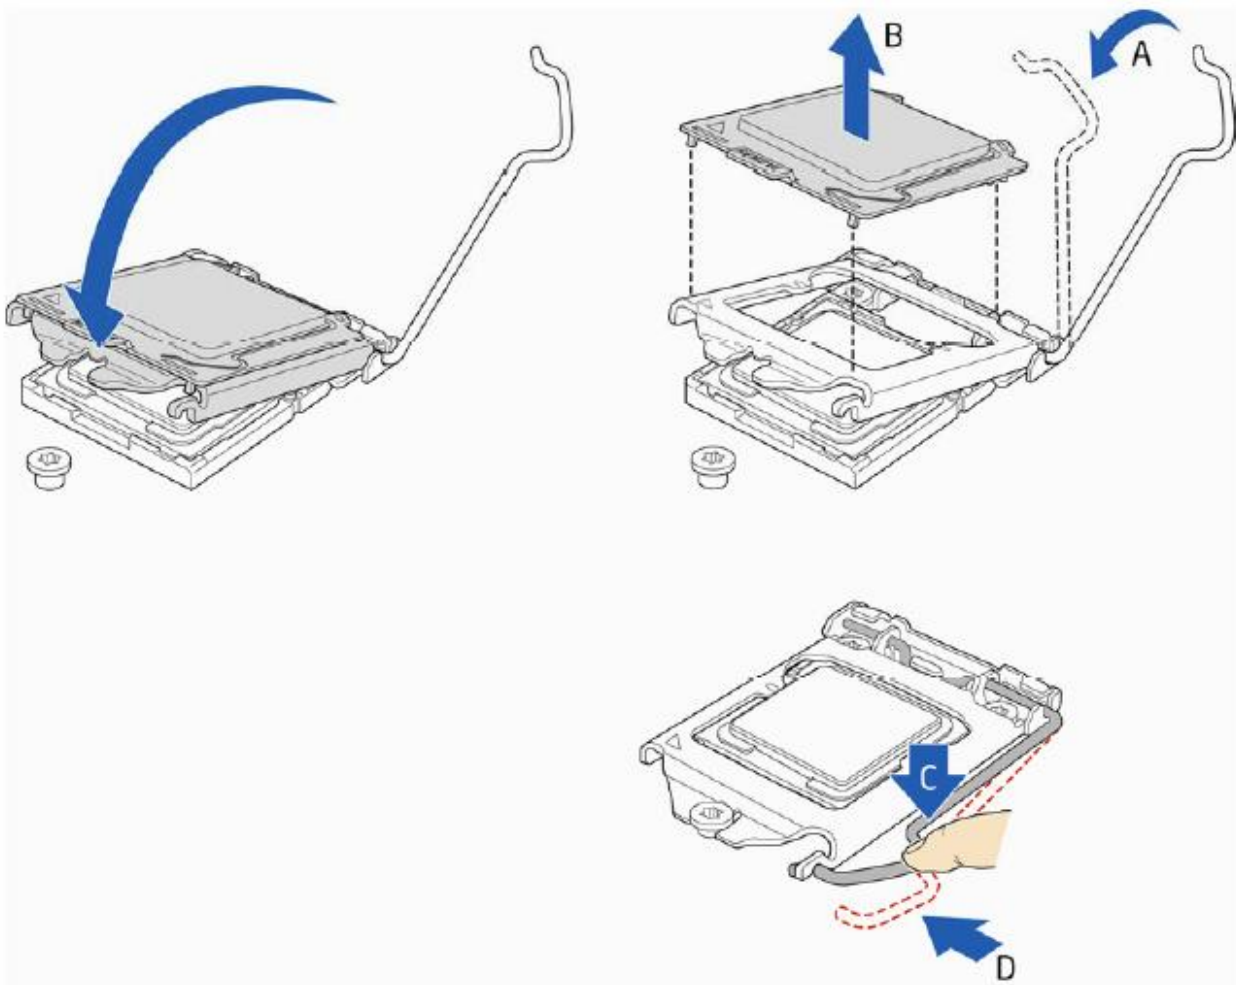

Figure 23: Secure the load plate in place
- Carefully lower the socket lever (Figure 23) while making sure that the front edge of the load plate slides under the shoulder screw cap as the lever is lowered. Latch the socket lever under the load plate tab (Figure 23, C, and D). The socket cover (Figure 23, B) will pop off as shown.